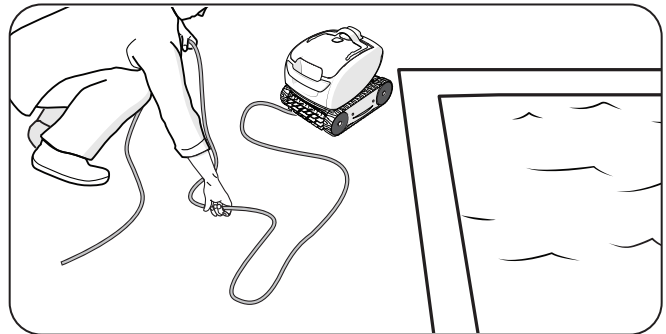

Figure 13. Untangle the Floating Cable
- Start at the cleaner head, remove all coils and tangles from the floating cable. Lay the cable in the sun to loosen any tangling memory (Figure 13).